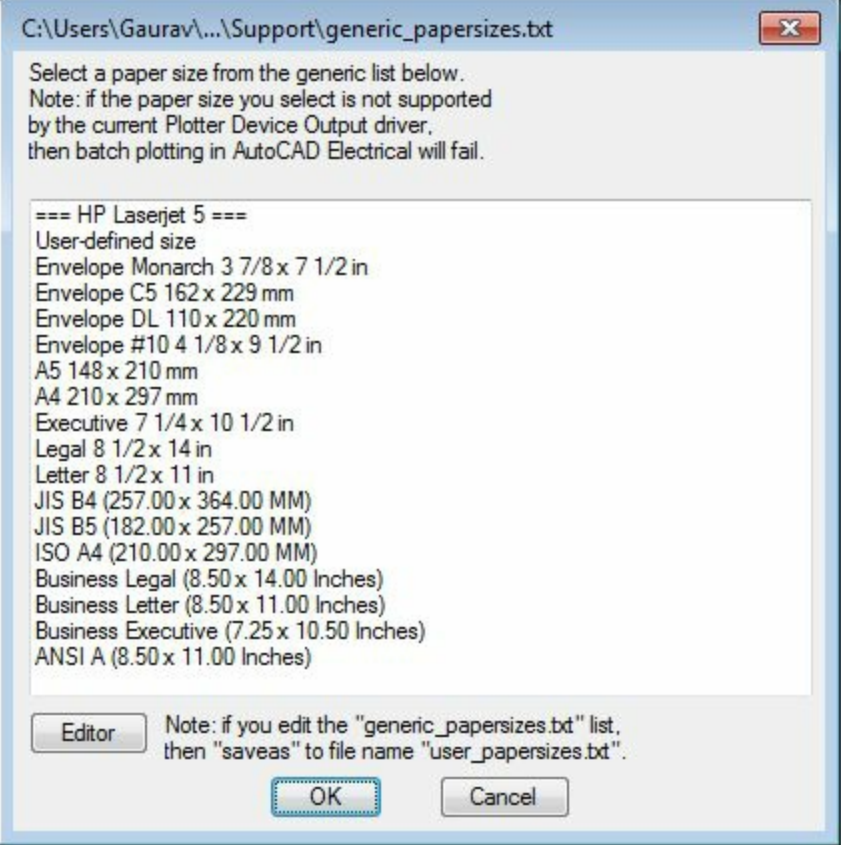

Figure-32. Paper sizes
- To select the desired paper size, click on the **Pick from generic list** radio button in the **Papersize** area. The dialog box with various paper sizes will be displayed; refer to Figure-32.